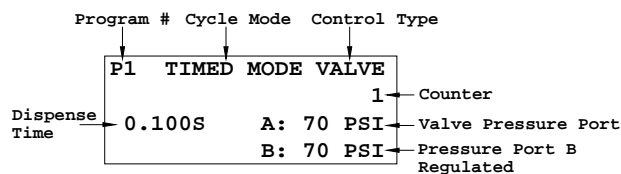

Figure 3.0
2. Press the Power button (1) to turn on the unit.
4. Press the Mode (2) and Set button (3) simultaneously until “VALVE” appears on the top right hand corner of the Display as shown in Figure 3.0